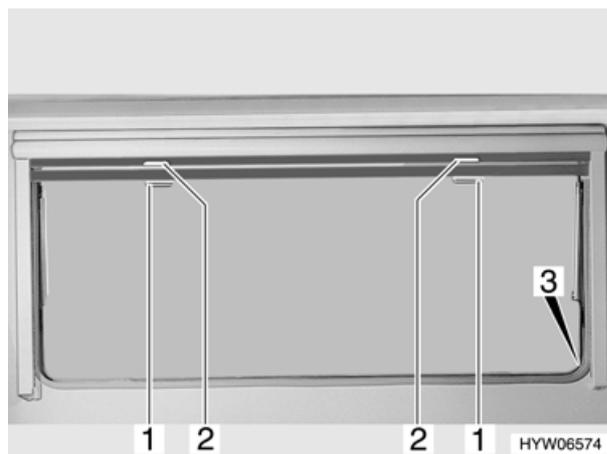

Fig. 22 Hinged window
- Pull blind at the handle (Fig. 22,2) downwards. If the blind is to be completely closed, it is suspended into the locking devices (Fig. 22,3) situated on both sides of the window frame.
- If the blind is completely closed: press handle (Fig. 22,2) downwards and at the same time tilt it slightly forwards. The blind can be taken out of the locking devices situated on both sides of the window frame.
- Pull insect screen at the handle (Fig. 22,1) down and hang it into the locking devices (Fig. 22,3) situated on both sides of the window frame.
- Press handle (Fig. 22,1) downwards and at the same time tilt it slightly forwards. The insect screen can be taken out of the locking devices situated on both sides of the window frame.